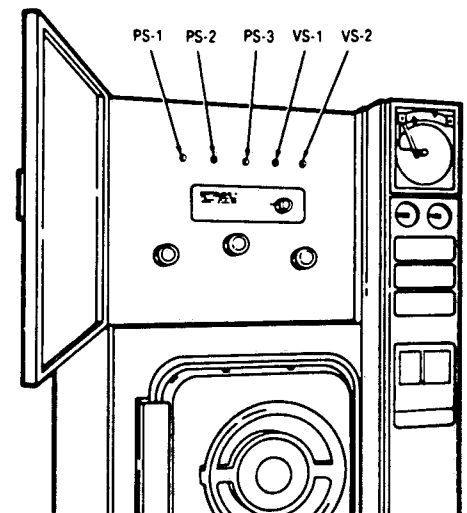

Figure 5-7. ADJUSTMENT OF PRESSURE AND VACUUM SWITCHES.
7. After the sterilize phase has been completed and control has advanced to slow exhaust, observe calibrated compound pressure gauge. When chamber pressure reaches 3 psig, adjust PS-3 (Figure 5-7) to open the fast exhaust valve (S-3) (LED-12). When chamber exhausts to 1 psig, adjust PS-2 to turn on the COMPLETE light and the buzzer (LED-18).